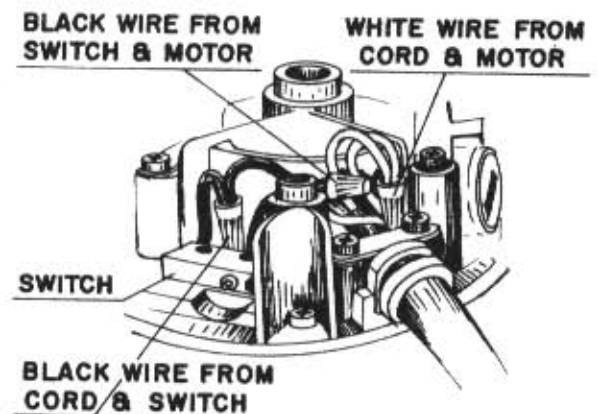

Fig. 5
2. Remove the two screws and cord clamping plate. See Figure 5.